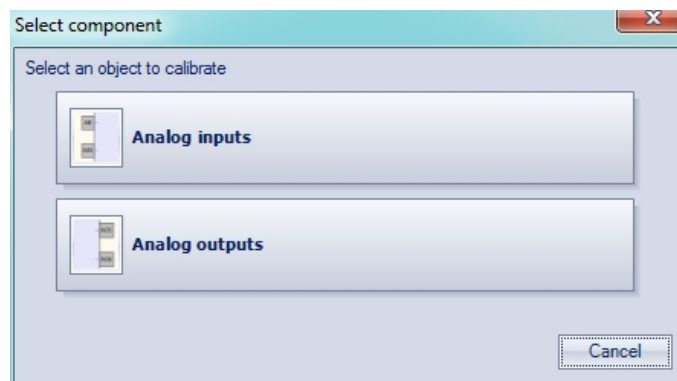

Fig. F.2
2. Start ALP software, select menu item *Device>Calibration*, in the opened dialogue box select 'Analog inputs' (Fig. F.2)
5. Start ALP software, select menu item *Device>Calibration*, in the opened dialogue box select *Analog outputs* (Fig. F.2)